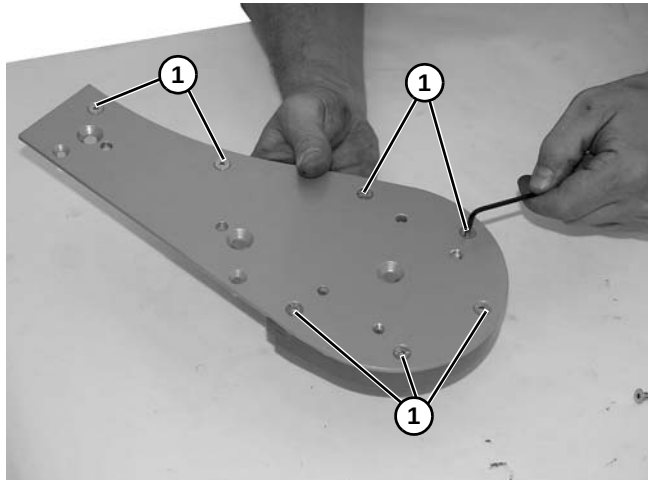

Figure 82
2. Remove seven (7) socket head screws (**Figure 82, item 1**) from idler head plate assembly.